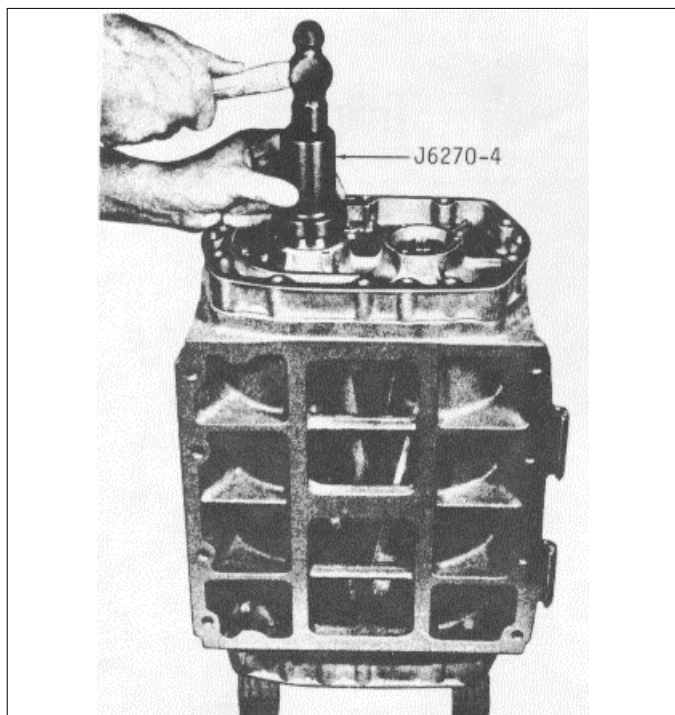

Fig. 18
- (1) With the blower housing, rotors and end plates supported in a vertical position on the two wood blocks, install the roller bearings on the rotor shafts and in the front end plate as follows:
- (b) Place installer J 6270-4 on top of the bearing and tap the bearing on the shaft and into the front end plate as shown in Fig. 18.
- (2) Start the end of the water pump drive coupling straight into the left-hand helix rotor shaft. Then, place a clean shop towel between the blower rotors to prevent them from turning. Install the drive coupling retaining bolt and draw the coupling and slinger tight against the end of the shaft, then tighten the bolt to 18 ft-lbs (24 Nm) torque.
- (3) Affix a new gasket (32) to the blower front end plate cover (29).